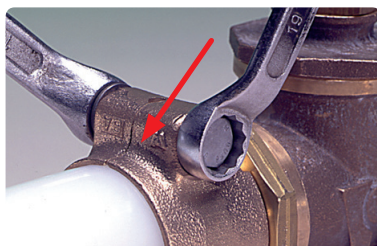

Figure 4-32: Tighten the Fitting
8. Tighten the WIPEX fitting slowly by hand to avoid thread problems when assembling acid-resistant stainless steel bolts in a screw joint. If using a tightening machine, only use a low number of revolutions. Use open-ended or ring spanners and slowly tighten until the pads of the clamping sleeve are in contact with one another (see **Figure 4-32**).